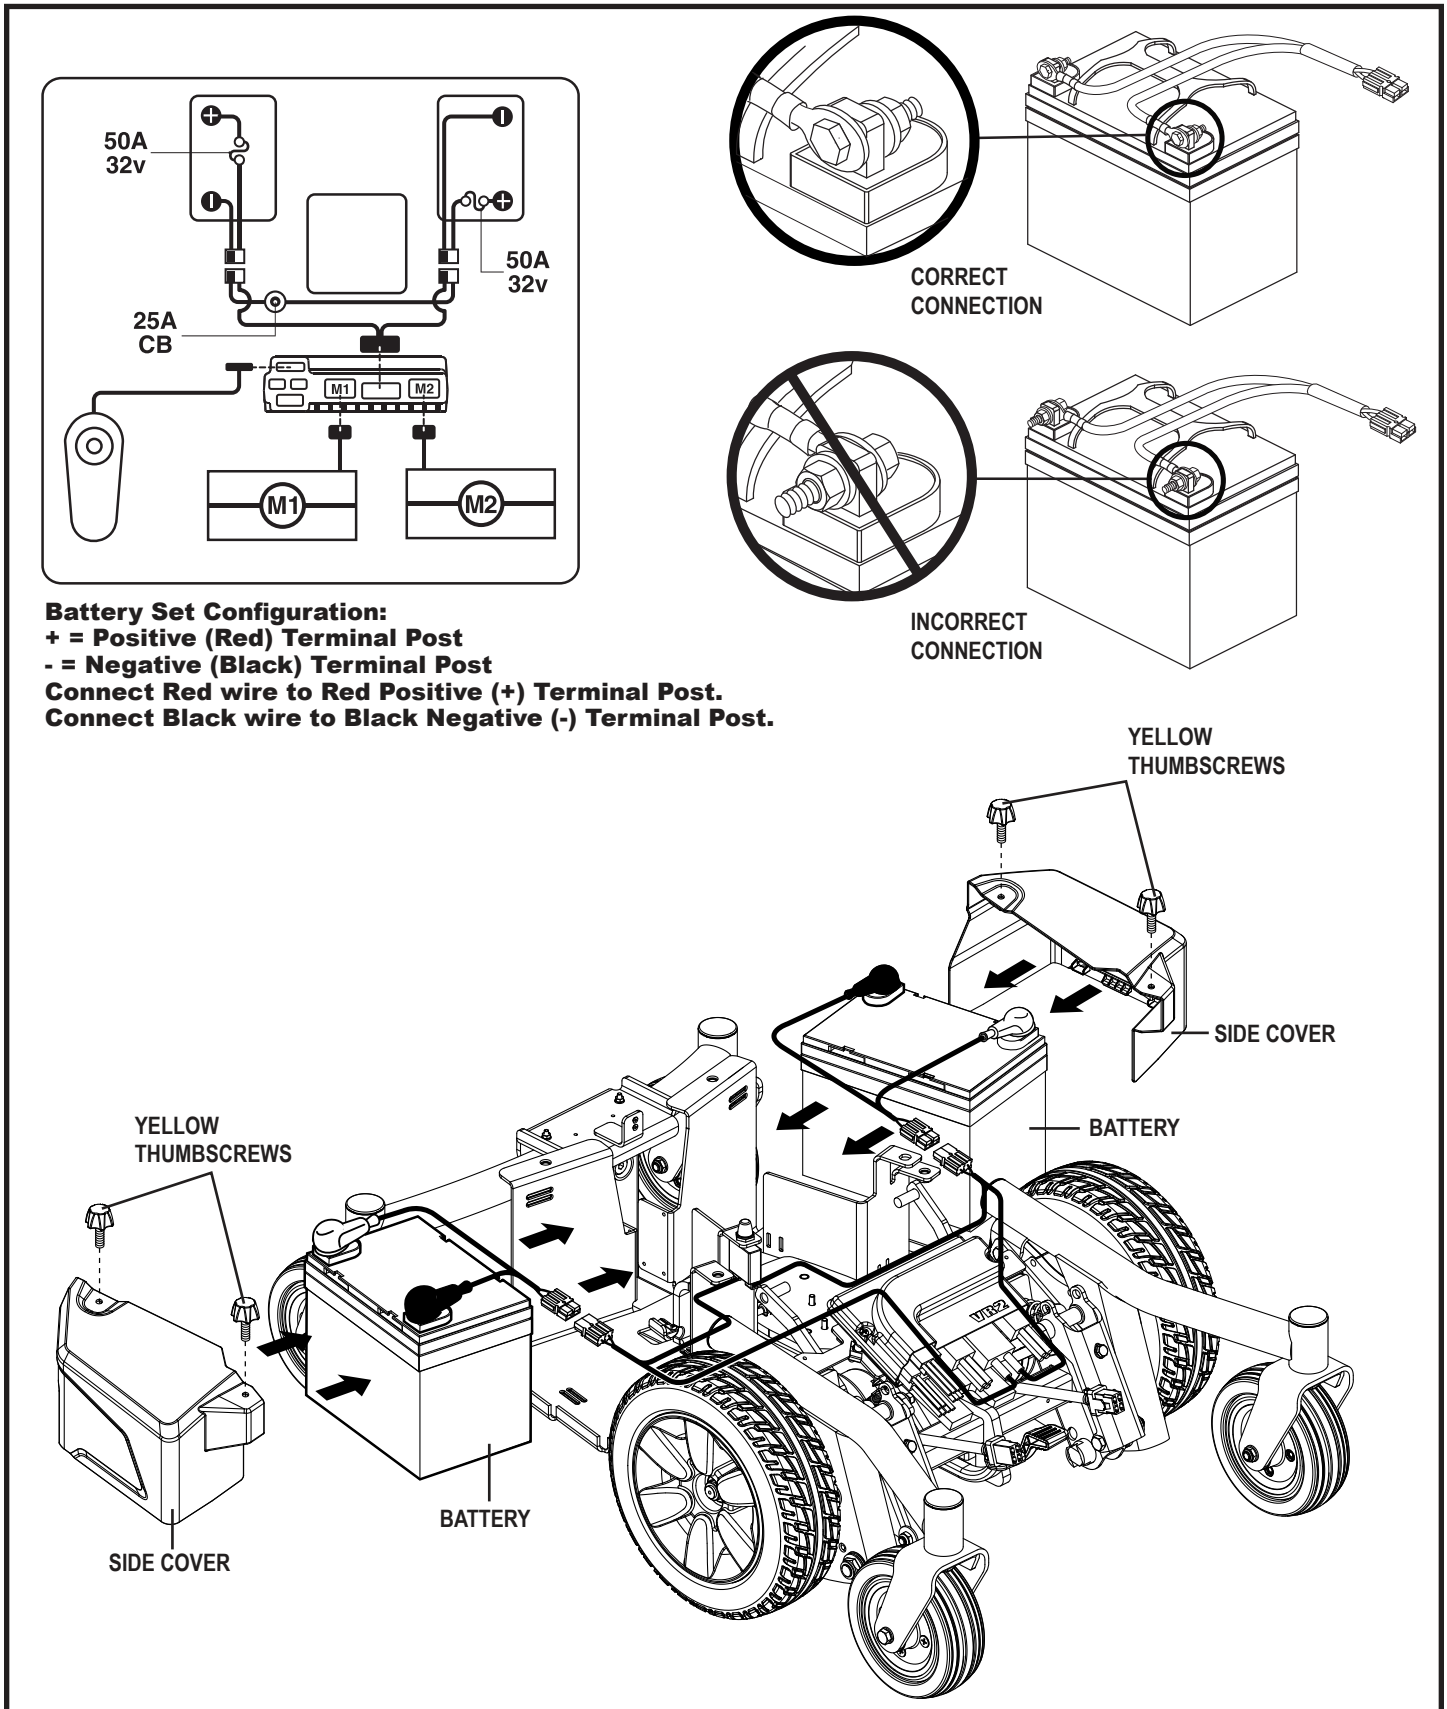

Figure 17. Battery Installation (Seat Removed for Clarity)
3. Remove the top shroud. See figure 17.
5. Disconnect the battery harnesses from the power base. See figure 17.
7. Remove the battery harnesses from the old batteries and install them onto the new batteries. Make sure that the hardware is facing the correct direction. See figure 17.
8. Place the batteries into the power base. Make sure that the terminals are facing the sides of the power base. See figure 17.